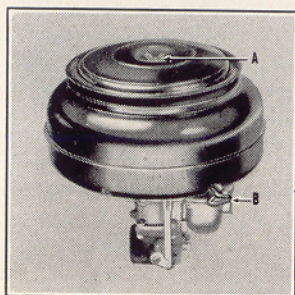

Figure 35
1. Loosen long clamp type screw, (B, Figure 35) at base, lift up and take off cleaner.
2. Remove wing nut (A) at top of cleaner, take out upper section and wash filter element in kerosene. Do not oil.